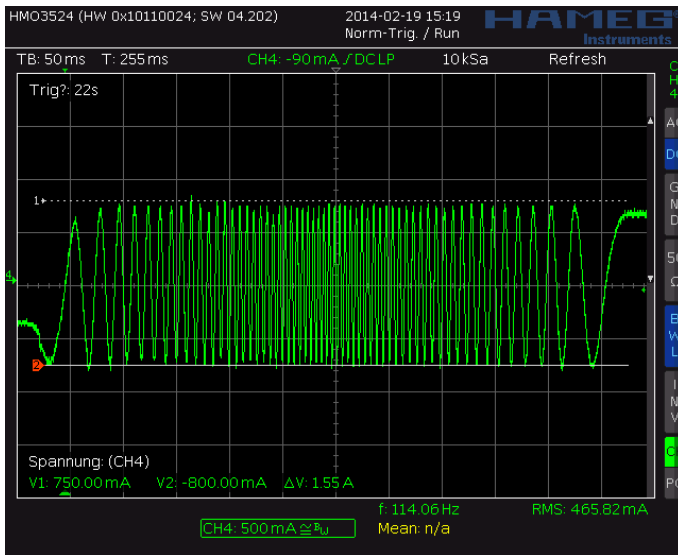
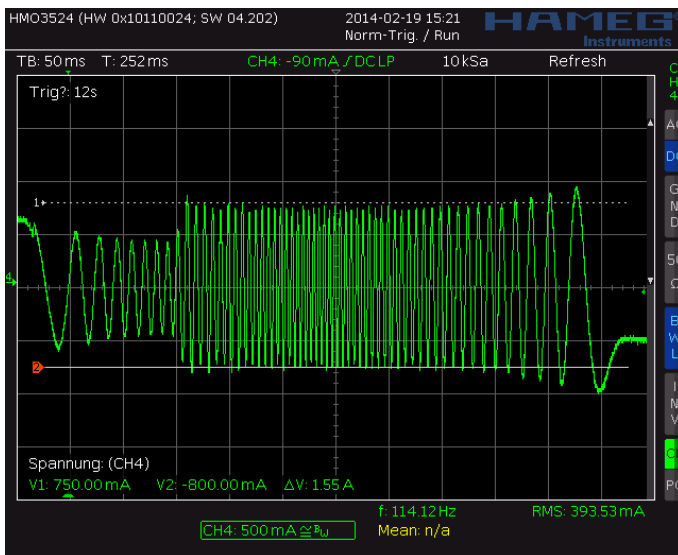
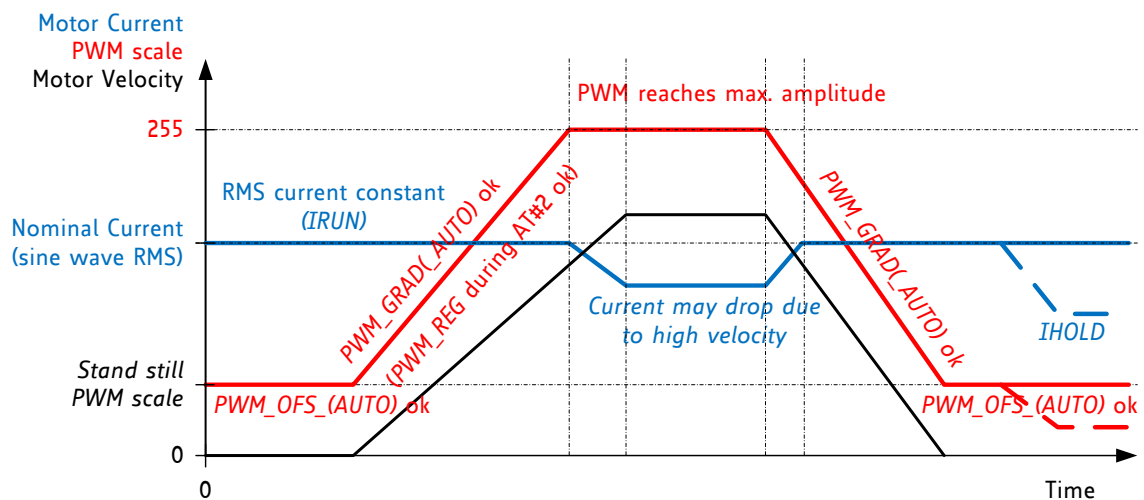

Figure 6.3 Scope shot: good setting for PWM\_REG
Figure 6.4 Scope shot: too small setting for PWM\_REG during AT#2
Figure 6.5 Successfully determined PWM\_GRAD( AUTO) and PWM\_OFs( AUTO)
In StealthChop voltage PWM mode, the autoscaling function ( $pwm\_autoscale = 1$ ,  $pwm\_auto\_grad = 1$ ) regulates the motor current to the desired current setting. Automatic scaling is used as part of the automatic tuning process (AT), and for subsequent tracking of changes within the motor parameters. The driver measures the motor current during the chopper on time and uses a proportional regulator to regulate  $PWM\_SCALE\_AUTO$  in order match the motor current to the target current.  $PWM\_REG$  is the proportionality coefficient for this regulator. Basically, the proportionality coefficient should be as small as possible in order to get a stable and soft regulation behavior, but it must be large enough to allow the driver to quickly react to changes caused by variation of the motor target current (e.g. change of  $VREF$ ). During initial tuning step AT#2,  $PWM\_REG$  also compensates for the change of motor velocity. Therefore, a high acceleration during AT#2 will require a higher setting of  $PWM\_REG$ . With careful selection of homing velocity and acceleration, a minimum setting of the regulation gradient often is sufficient ( $PWM\_REG=1$ ).  $PWM\_REG$  setting should be optimized for the fastest required acceleration and deceleration ramp (compare Figure 6.3 and Figure 6.4). The quality of the setting  $PWM\_REG$  in phase AT#2 and the finished automatic tuning procedure (or non-automatic settings for  $PWM\_OFS$  and  $PWM\_GRAD$ ) can be examined when monitoring motor current during an acceleration phase Figure 6.5.